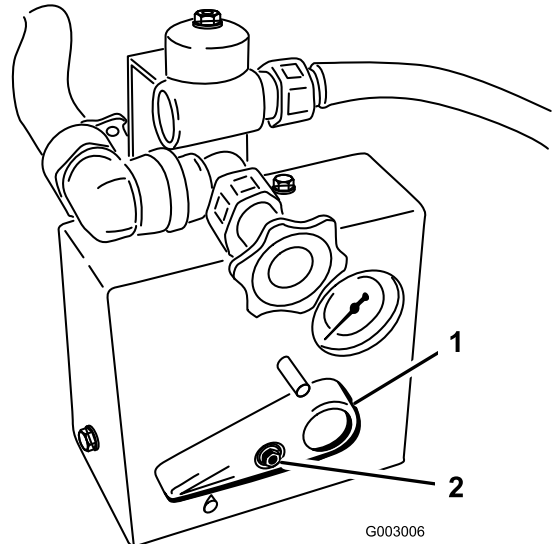

Figure 17
7. Install the red handle on the face of the control valve assembly and secure it with the screw as shown in Figure 17.
Note: Ensure that you install the handle in the orientation shown in Figure 17.